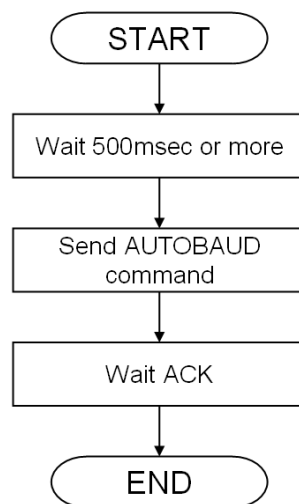

Figure 2. Initialization Flowchart
- The Z8 Encore! XP Series MCU transmits the Autobaud command and waits for an acknowledgement (ACK) from the μ OLED device; see Figure 2.